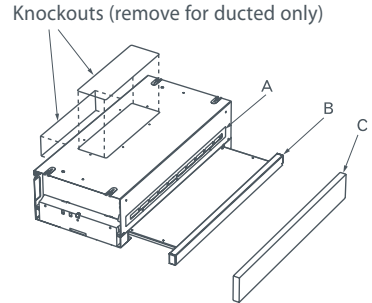

Fig.4 Preparing for install
- 1 Do not remove the knockouts shown in Fig.4. These are removed for ducted options only.
- 2 Remove Cover Tape "A". See Fig.4.
- 1 Remove the appropriate knockout to suit rear or top venting, as shown in Fig.4
- 2 Do not remove Cover Tape "A". See Fig.4. This is removed for recirculating only.
- 3 If an 80mm handle is not installed, remove front fascia "B" by undoing the 3 screws on the fascia (see Fig. 4).